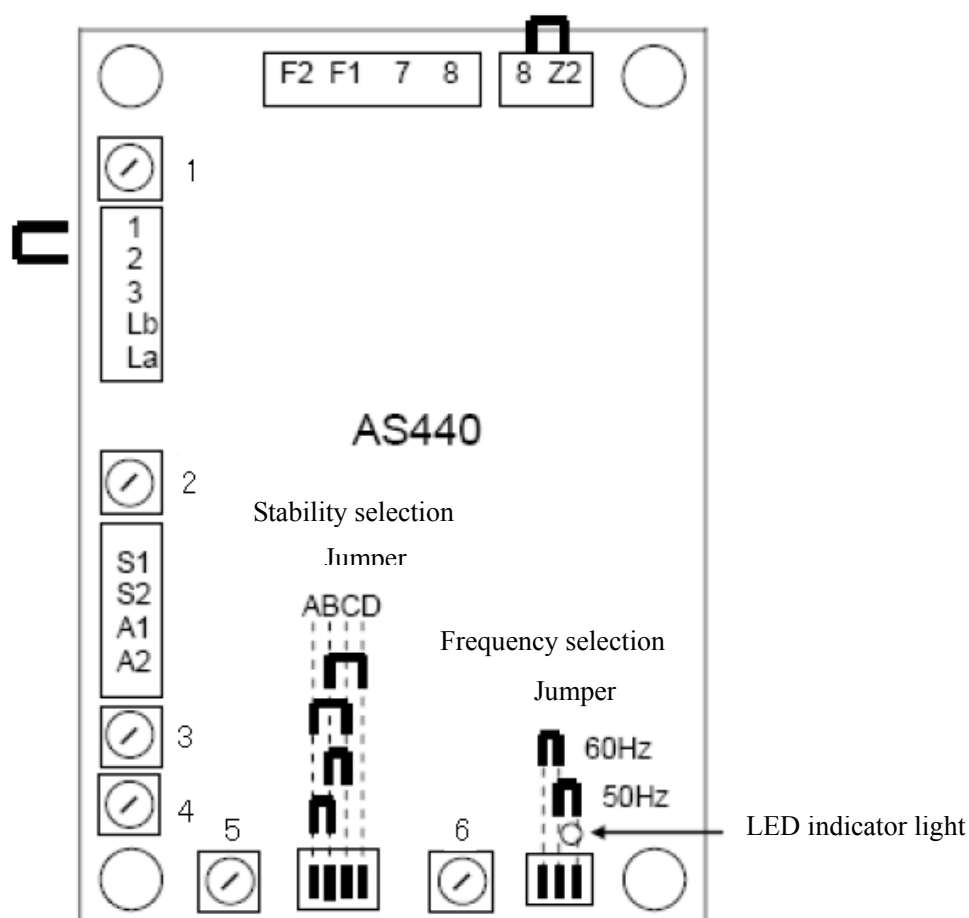

Figure 3-4 AS440 Structure diagram
7) Frequency selection is as shown in Figure 3-4.